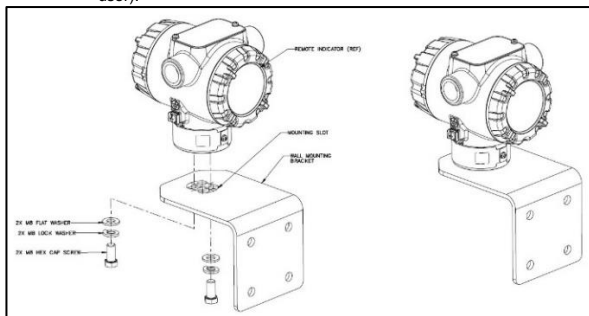

Figure 5: Remote Indicator Secured to a Wall Mounting Bracket
3. Wall Mount Option – Refer Figure 5 Position the bracket on the mounting surface at the desired location and secure the bracket to the mounting surface using the appropriate hardware (Wall mounting hardware requirements to be determined and supplied by the end user).